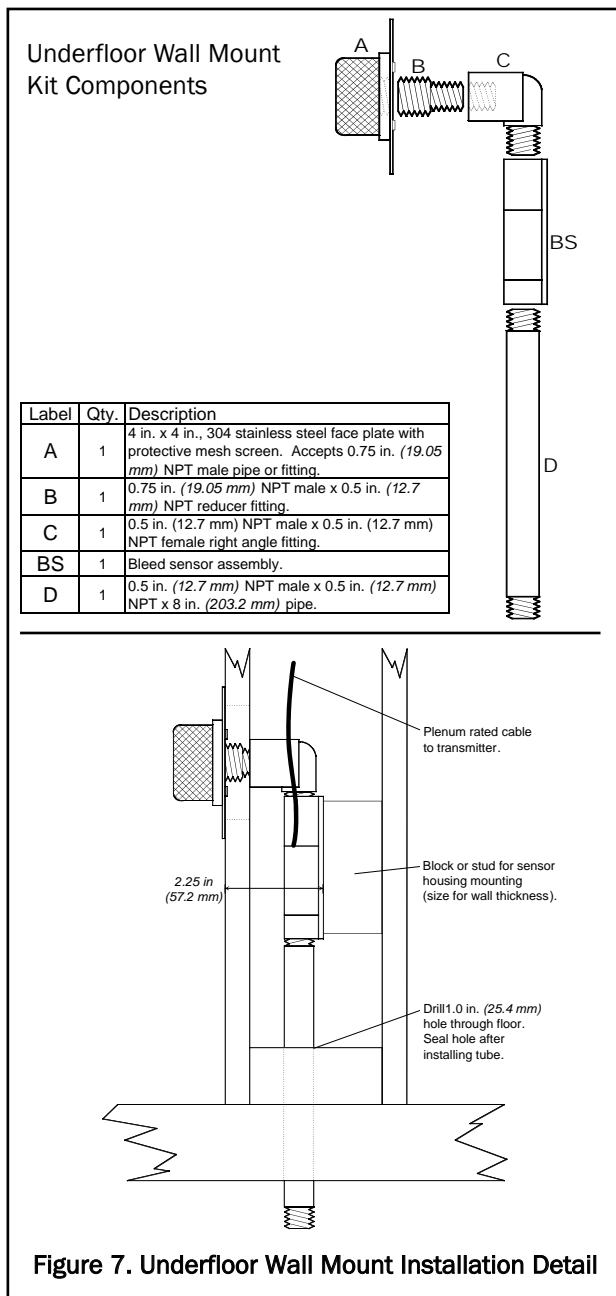

Figure 7. Underfloor Wall Mount Installation Detail
Figure 7 shows the Underfloor/Wall Mounting Kit components and installation details for underfloor systems through a floor plate.
As shown in Figure 7, mount the bleed sensor so that the air flow directional arrow points away from the floor (up). Drill a 1.0 inch (25.4 mm) hole through the base wall beam and floor where the bleed sensor will be mounted. The end of the tube should protrude slightly into the floor plenum. Secure the bleed sensor housing (BS) to a support beam or other suitable bracket so that the base of the sensor is approximately 2.25 inches (57.2 mm) from the interior wall surface (room side). The bleed sensor requires a 3 to 3.5 inch (76.2 to 88.9 mm) opening through the wall surface. The opening is covered by the stainless steel face plate (A) after the wall surface is installed. A standard 10 foot (3.048 m) plenum rated cable (up to 50 ft (15.24 m) available) with terminal plug must be run to the remotely mounted transmitter.